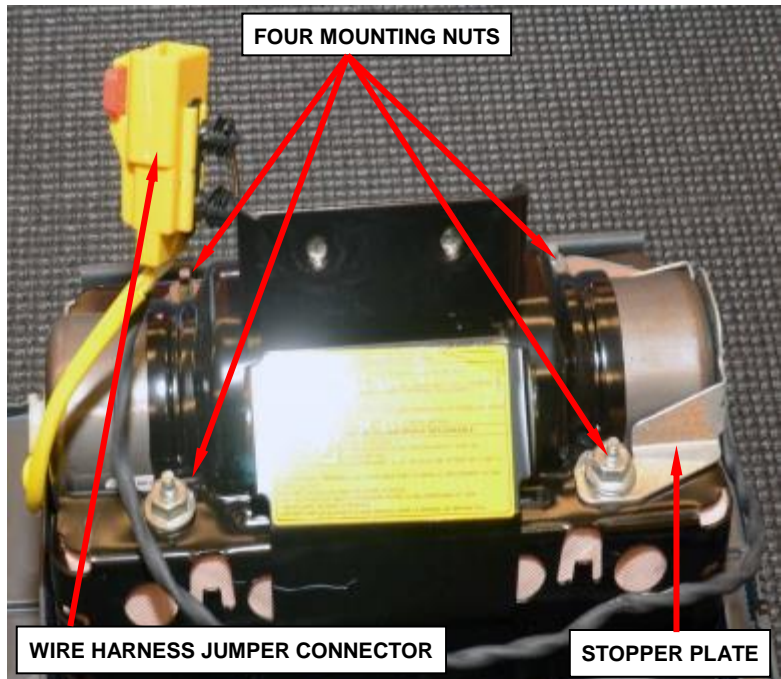

Figure 16 – Airbag Module
- d. Remove the yellow three way wire harness jumper connector from the housing bracket (Figure 16).
- e. Remove and discard the four mounting nuts, then remove the stopper plate from the passenger airbag module (Figure 16).